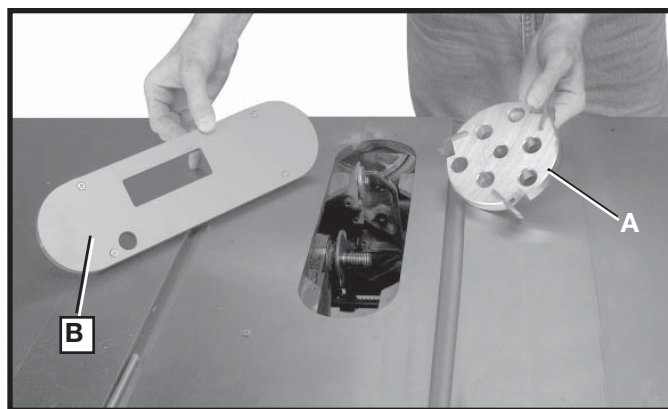

Fig. S15
1. A moulding cutterhead (A) Fig. S15 can be easily assembled to the saw arbor. **Also, the accessory moulding cutterhead table insert (B) must be used in place of the standard table insert.**